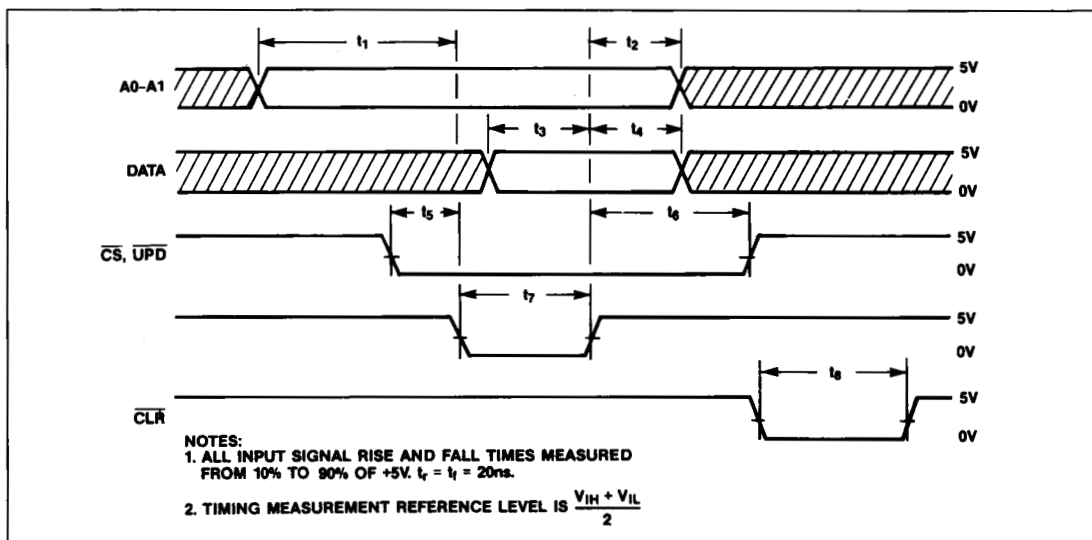

Figure 2. Timing Diagram for MX7537
TIMING CHARACTERISTICS—AD7537 ($V_{DD} = +10.8V$ to $+16.5V$. See Figure 2 for timing diagram.)
Figure 2 shows the timing diagram for the MX7537. A1 and A0 select the most-significant (MS) or the least-significant (LS) input registers for DAC A or DAC B (Table 1). When loading the MS register, DB3 is the MSB of the 12-bit data input. Similarly, when the LS register is loaded, DB0 is the LSB. Data is loaded into the DAC when CS and WR both go low. CLR and UPD must be kept high while the data is loaded. When CLR is low, all registers are cleared without regard to the state of other control signals. When UPD and WR are low, the DAC registers are updated simultaneously from the input registers. When UPD, CS and WR are low, the DAC registers are transparent and load the